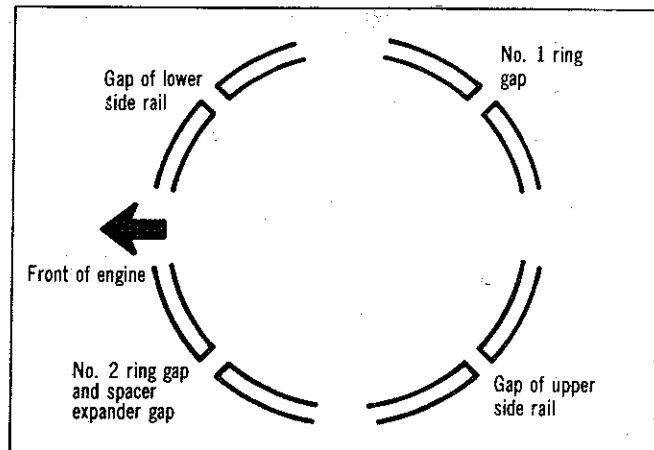

Fig. 58—Piston ring gap position
- (8) Position the piston rings so that the ring gaps are as far from each other as possible and that they do not align with the piston pin and thrust side of the piston. Refer Fig. 58.